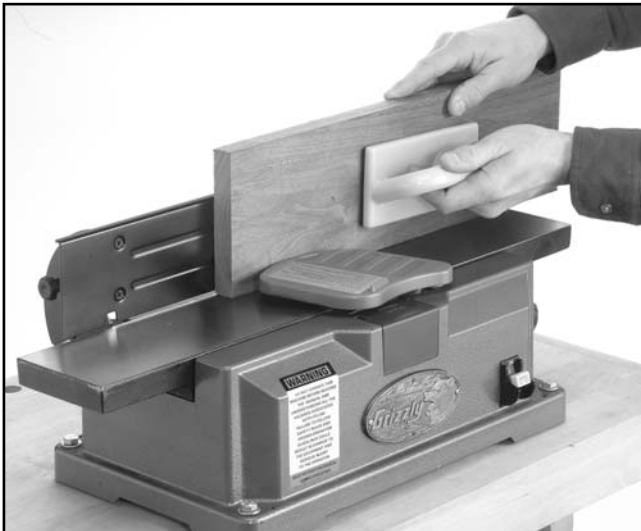

Figure 17. Operator position for edge joining.
4. Holding the stock firmly against the fence and table. Feed the stock slowly and evenly over the cutterhead. **See Figure 17.**